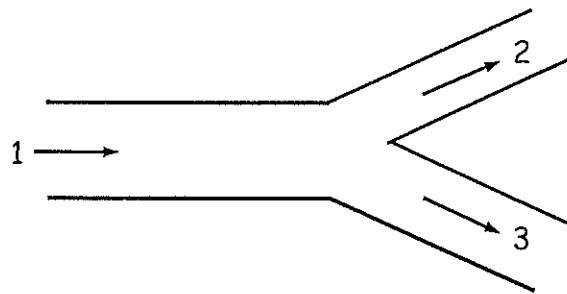

Figure 2/ Rajah 2
- c) Water flows through a pipe in **Figure 2** with a diameter of 50 mm. Then the split into two, one of the pipes has a diameter 25 mm with the velocity of flow 0.4 m/s and the other one has a diameter 15 mm with the velocity 0.6 m/s. Calculate the velocity in the main pipe.